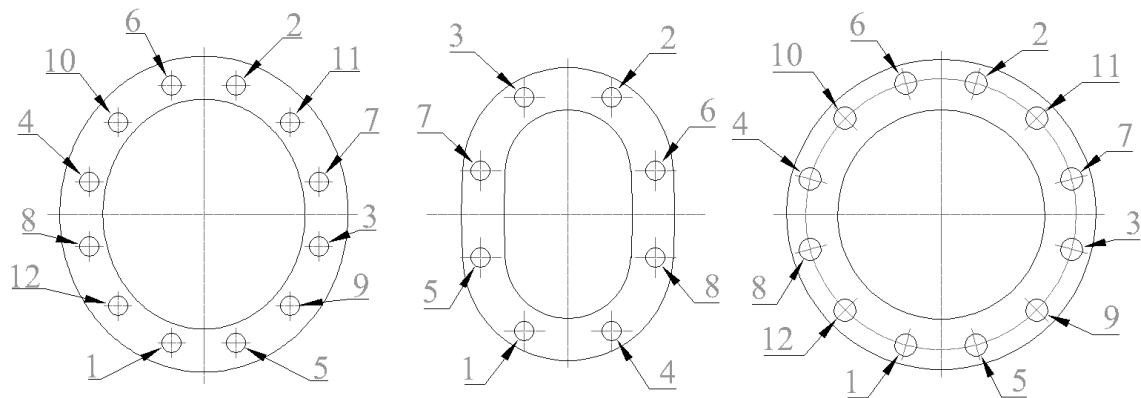

Fig. 5 Recommended re-tighten order
- For high temperature and high pressure applications after 24 hours of operation, all nuts shall be re-tighten diametricly opposite up to design stresses (Fig.5). This action compensate any relaxation or creep. Periodic inspection is recommended, thereafter.